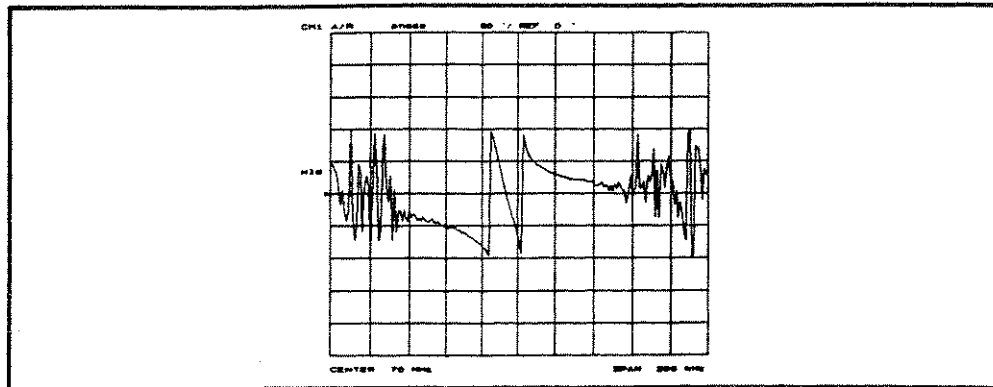

Figure 9-8. Phase Format
**PHASE** (PHAS) displays a Cartesian format of the phase portion of the data, measured in degrees. This format displays the phase shift versus frequency. Figure 9-8 illustrates the phase response of the same filter in a phase-only format.